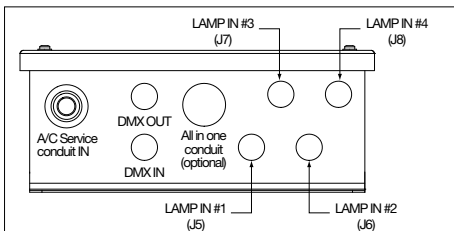
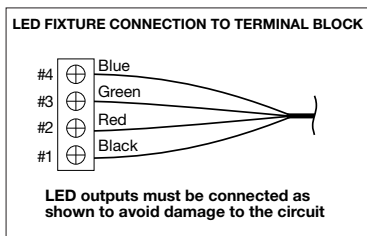

FIGURE 2
FIGURE 3b
2. Install the power, communication, and LED accessory conduit fittings as desired to the enclosure (see FIGURE 2).
Note: The left most conduit fitting hole must be used for installation of power to the controller. The LED accessory and communications conduit connections should be placed as shown in FIGURE 2.
4. Install the ends of the conduit to the enclosure after routing the excess wire length into the enclosure at the appropriate locations (see FIGURE 2)
1. Locate the incoming cable for fixture #1 (see **FIGURE 2**). This cable will be attached to terminal block J5 on the PCB. Trim excess cable leaving no more than six (6) inches protruding from the conduit.
2. Carefully remove two (2) inches of insulation from the cable (a box cutter set to protrude less than 1/8” is good for this purpose). Cut from the desired removal location towards the cut end of the cable to prevent damaging the internal wires.
5. The wires will be installed as shown in **FIGURE 3b** below.
7. Repeat for the remaining three wires of the cable (see **FIGURE 3b**). Tuck the excess cable out of the way for the remaining steps.
8. Repeat steps 2-7 for fixture #2 using the appropriate conduit input for location #2 (usually the back most to the right side) and J6 of the PCB (see **FIGURE 3b**).
9. Repeat steps 2-7 for fixture #4 (it helps to install #4 before #3). Usually this will be the front most conduit input to the right. Connect fixture #4 to J8 of the PCB (see **FIGURE 3b**).
10. Repeat steps 2-7 for fixture #3. Connect fixture #3 to J7 (bottom right) of the PCB (see **FIGURE 3b**).
2. Locate the incoming DMX communication cable (see **FIGURE 2**). This cable will be attached to terminal block J3 on the PCB. Trim excess cable leaving no more than four (4) inches protruding from the conduit.